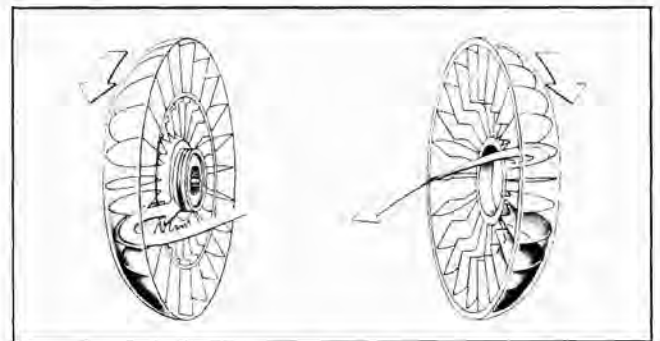

Fig. 6 Torus Operation—Step 1
- Step 1. The engine turns the coupling drive member thus causing the drive member to force the oil against the vanes of the driven member, forcing the driven member to turn (Fig. 6).